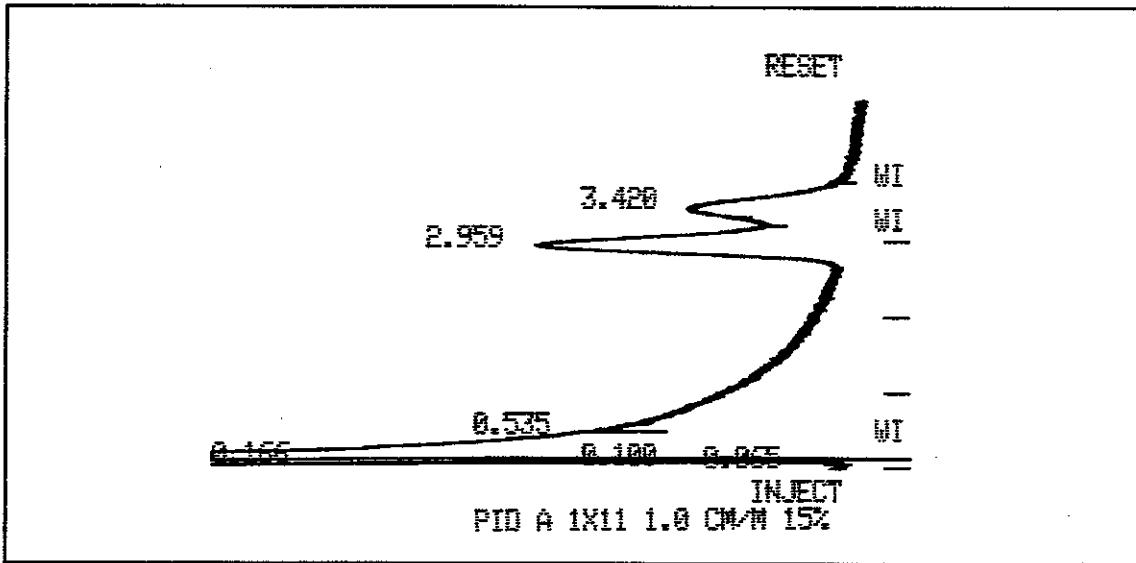

Figure 20a Packed Column (PID)
4. Compare the test chromatogram for peak separation, peak heights, and retention times with the chromatogram in Figures 20a-20c.